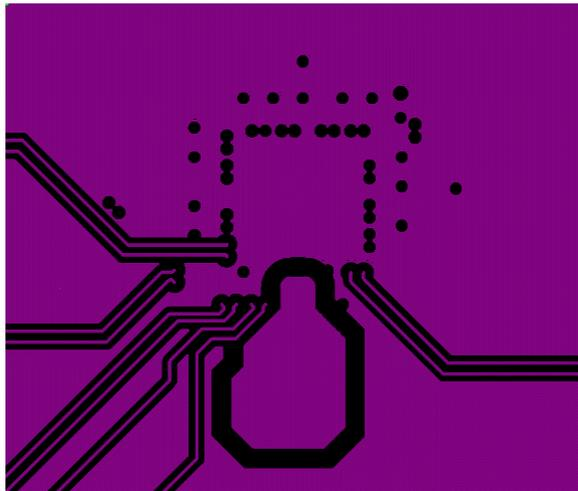
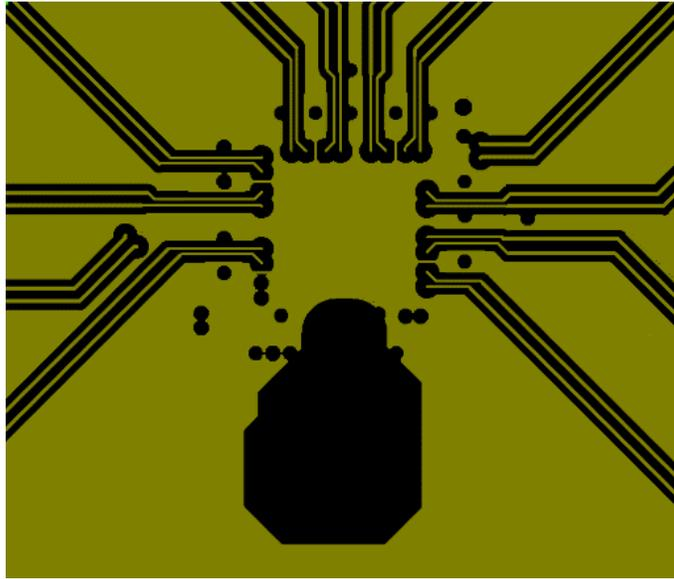

Figure 29. Zoom View Crystal Shield Layer, Below the Top Layer (Layer 2)
Figure 34. Output Clock Layer (Layer 7)
3. Connect the crystal's GND pins to the DUT's X1 and X2pins via a local crystal shield placed around and under the crystal. See Figure 34 at the bottom left for an illustration of how to create a crystal shield by placing vias connecting the top layer traces to the shield layer underneath. Note that a zoom view of the crystal shield layer on the next layer down is shown in Figure 29.
Figure 29 shows the layer that implements the shield underneath the crystal. The shield extends underneath the entire crystal and the X1 and X2 pins. This layer also has the clock input pins. The clock input pins go to layer 2 using vias to avoid crosstalk. As soon as the clock inputs are on layer 2 they have a ground shield above below and on the sides for protection.
Figure 34 shows the output clocks. Similar to the input clocks the output clocks have vias that immediately go to a buried layer with a ground plane above them and a ground flooded bottom layer. There is a ground flooding between the clock output pairs to avoid crosstalk. There should be a line of vias through the ground flood on either side of the output clocks to ensure that the ground flood immediately next to the differential pairs has a low inductance path to the ground plane on layers 3 and 6.